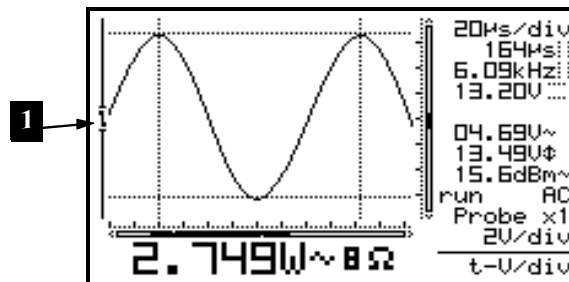

Fig 36
- Changing the timebase or sensitivity switches the auto range mode immediately off. (Fig 36)